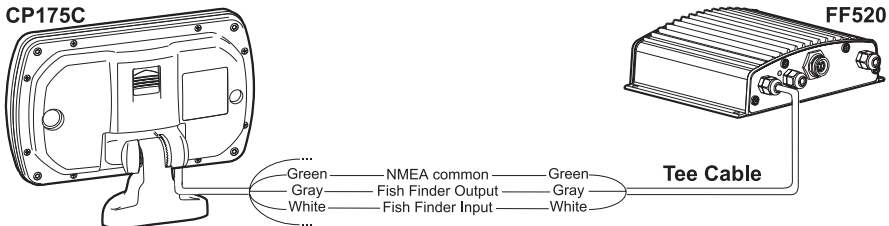

Figure 2.2b - CP175C Connection
3. Strip back the black insulation on the "Tee" cable about three inches to expose the wires inside the cable. Connect the wires from the CP175C to the FF520 "Tee" cable referring to figure 2.2b CP175C Connection.